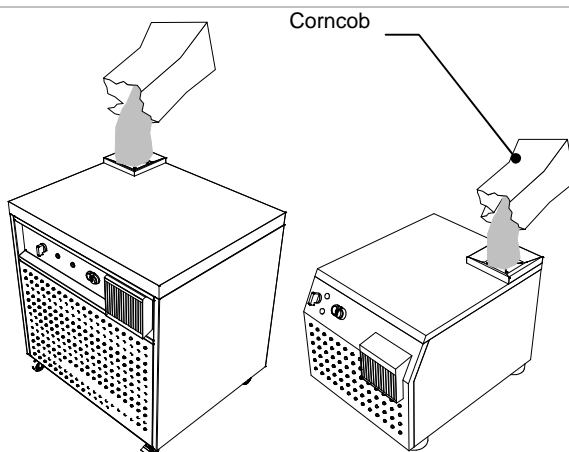

Figure 6 – Insertion of corncob
3. Pour into the tunnel, through the entrance opening for the cutlery (Figure 6), the amount of corncob specified in the technical data at the end of this manual;